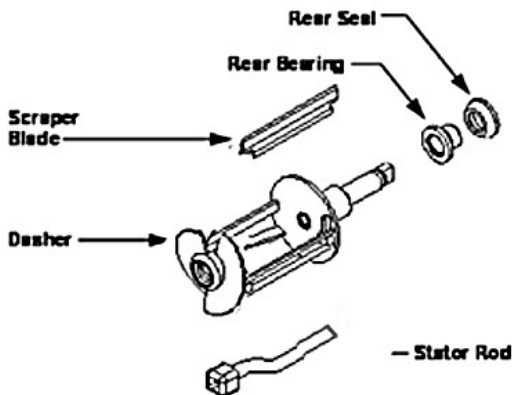

Fig. 13
c. Assemble and install the rear bearing and seal with the rubber portion toward the rear of the freezing cylinder as indicated in Fig. 13.